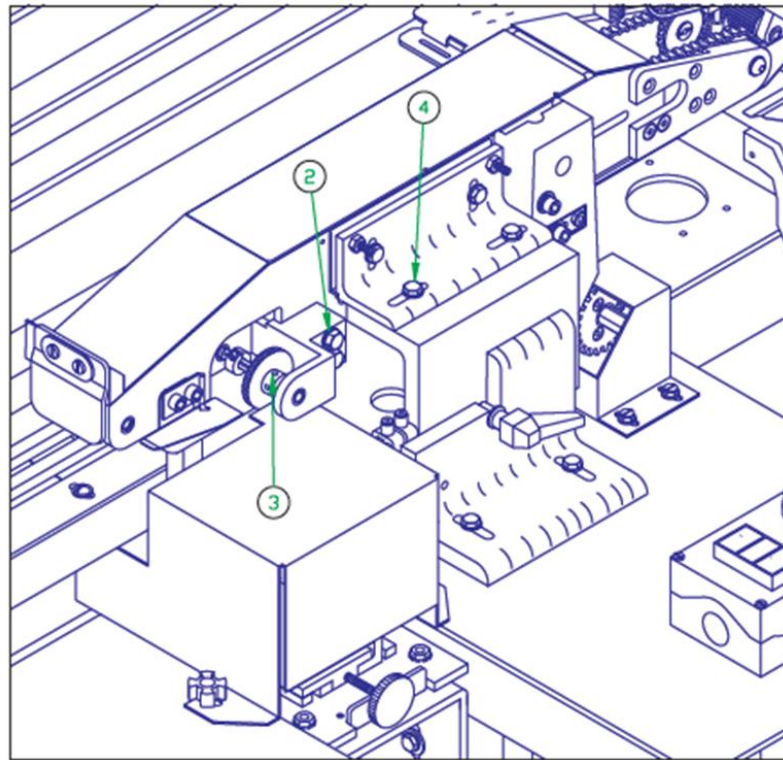
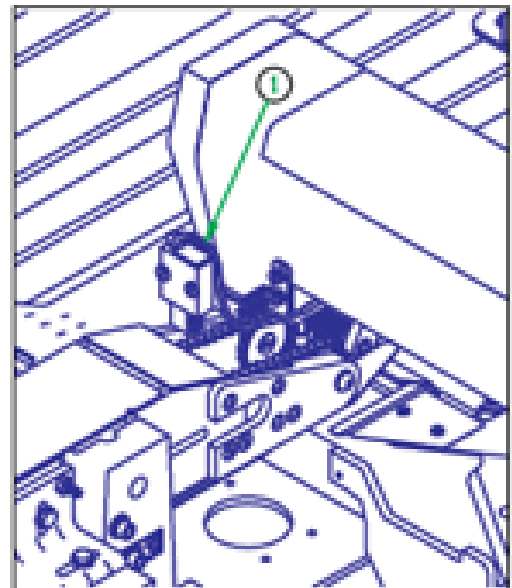

Fig. 4
Fig. 1
This type of thread detector monitors the consistent movement of thread at a 5 degree angle (see Fig. 1) over a ceramic surface. With the unit running in manual mode, the three LED's on the detectors must not be on. The presence of a red light on any of the detectors indicates thread breakage or mis adjustment, thus causing the unit to stop.
1. The material guide roller should be located vertically to be the thickness (1) (Fig. 1) of the sewn material above the lower fixed knife. This is accomplished by loosening the two 1/4-20 bolts (2) (Fig. 4, page 1-17) attaching the material guide roller support block to the frame of the upper conveyor. Care should be taken to keep the support block moved to the right as it is also used to tension the drive belt. Once the adjustment is made, tighten the two 1/4-20 bolts securely. The material guide spring (3) (Fig. 1) should be adjusted to be only slightly above the lower fixed knife.
2. The material guide roller should be adjusted along the sewing plane so as to be centered at the right 1/3 (Fig. 2) of the cutting edge of the upper movable knife blade. This is accomplished by loosening the two 1/4-20 bolts (4) (Fig. 4, page 19) located in the slotted holes of the upper conveyor mounting bracket. After locating the material guide roller properly, tighten the two 1/4-20 bolts securely.